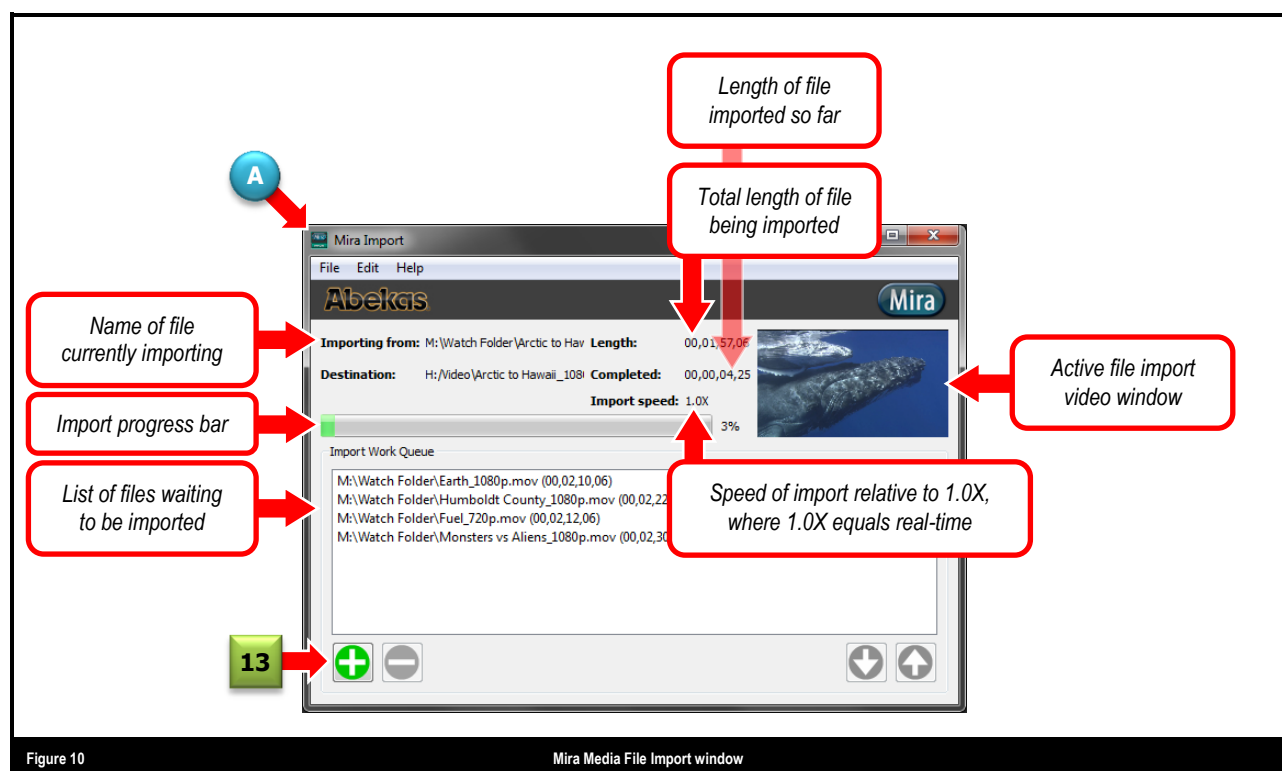

Figure 10
- ▶ **(A)** Selected file(s) are added to work queue, and importing immediately begins on the first file, as shown in **Figure 10** below.
- ▶ Selected file(s) are added to work queue, and importing immediately begins on the first file, as shown in **Figure 10** above.